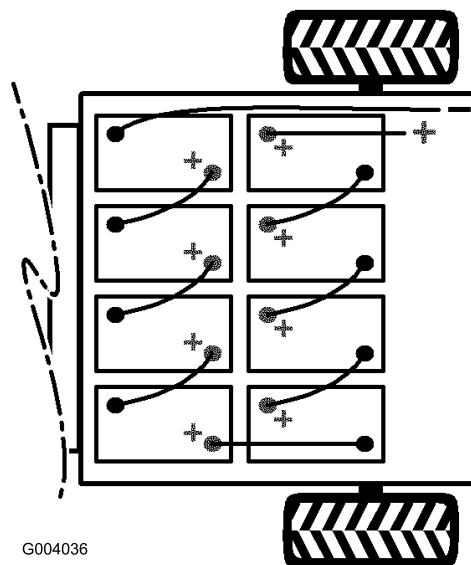

Figure 24
2. Disconnect the long, black, main negative lead running from the bank of batteries to the vehicle from the battery post (Figure 24).
3. Remove the long, red, main positive lead running from the bank of batteries to the vehicle from the battery post (Figure 24).
Note: Pay attention to the battery polarity when installing the new batteries (Figure 24).
9. Connect the batteries together with the battery cables removed previously, as shown in Figure 24.
10. Connect the long, red, main positive lead between the bank of batteries and the vehicle (Figure 24).
11. Connect the long, black, main negative lead between the bank of batteries and the vehicle (Figure 24).